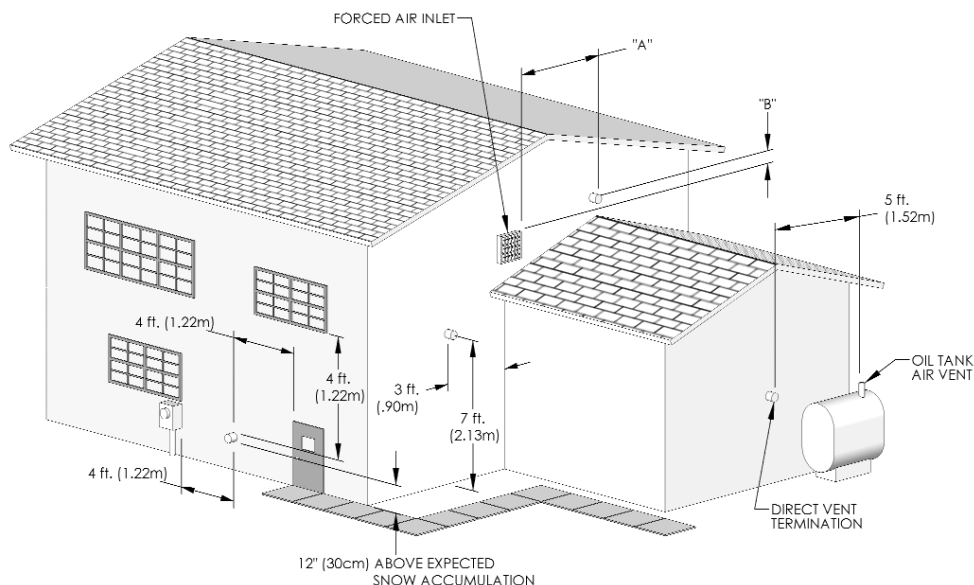

Figure 3.2: Exit Terminal Location for Mechanical Draft and Direct-Vent Venting Systems
- See Figure 3.2 for an illustration of clearances for location of exit terminals of direct-vent venting systems.